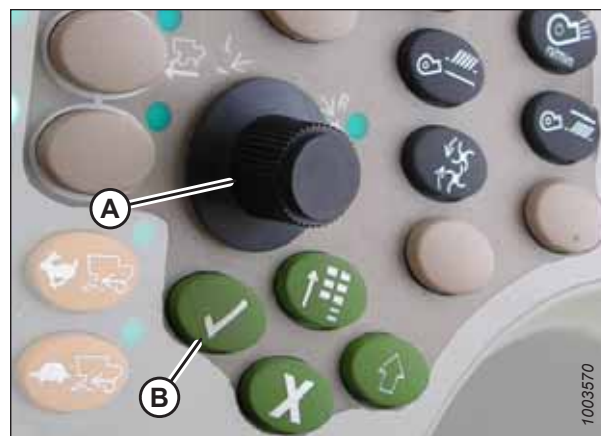

Figure 8.242: John Deere Combine Control Console
8. Select HEADER in box (A) by scrolling down to the box using the scroll knob, and then pressing the check mark button (knob and button are shown in Figure 8.242, page 355).
9. Scroll down to the lower right icon that resembles an arrow in a diamond (B) and press the check mark button to select it.